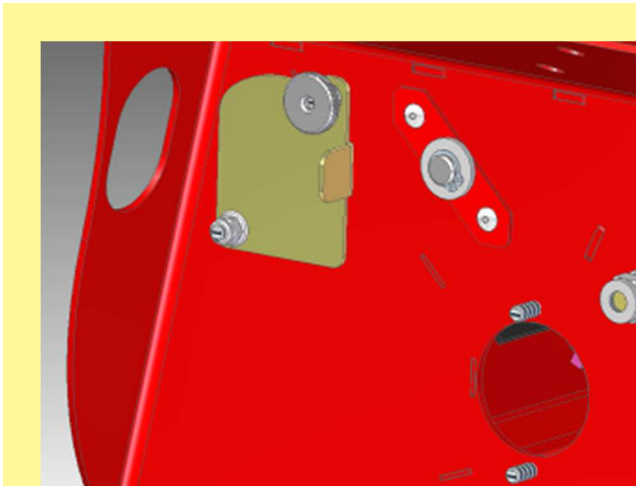
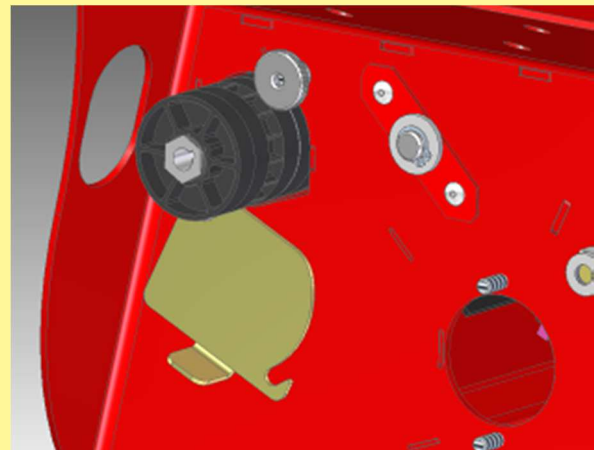

Figure 29
Figure 30
- Here, you must loosen the knurled nuts, then you can swivel the cover away and remove the second seeding shaft (Figure 29). Turn the spare roll by 180° and stow it in the meter roll holder (Figure 30).